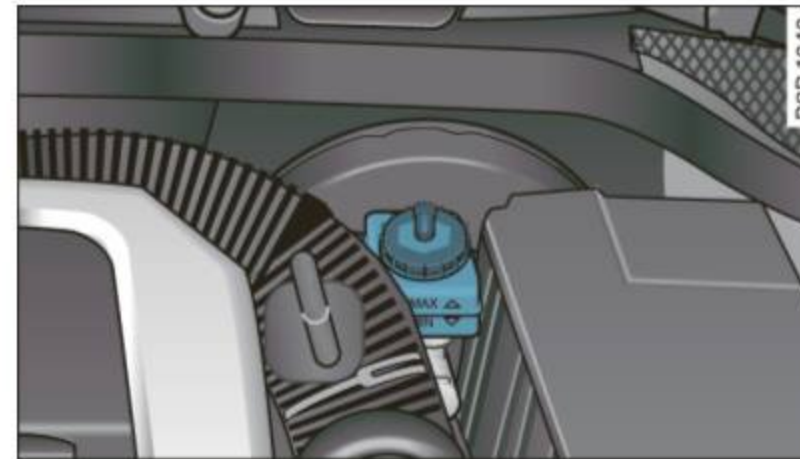

Fig. 191 Engine compartment: brake fluid reservoir
- Read the brake fluid level from the brake fluid reservoir. The brake fluid level must be between the "MIN" and "MAX" markings ⇒ fig. 191.